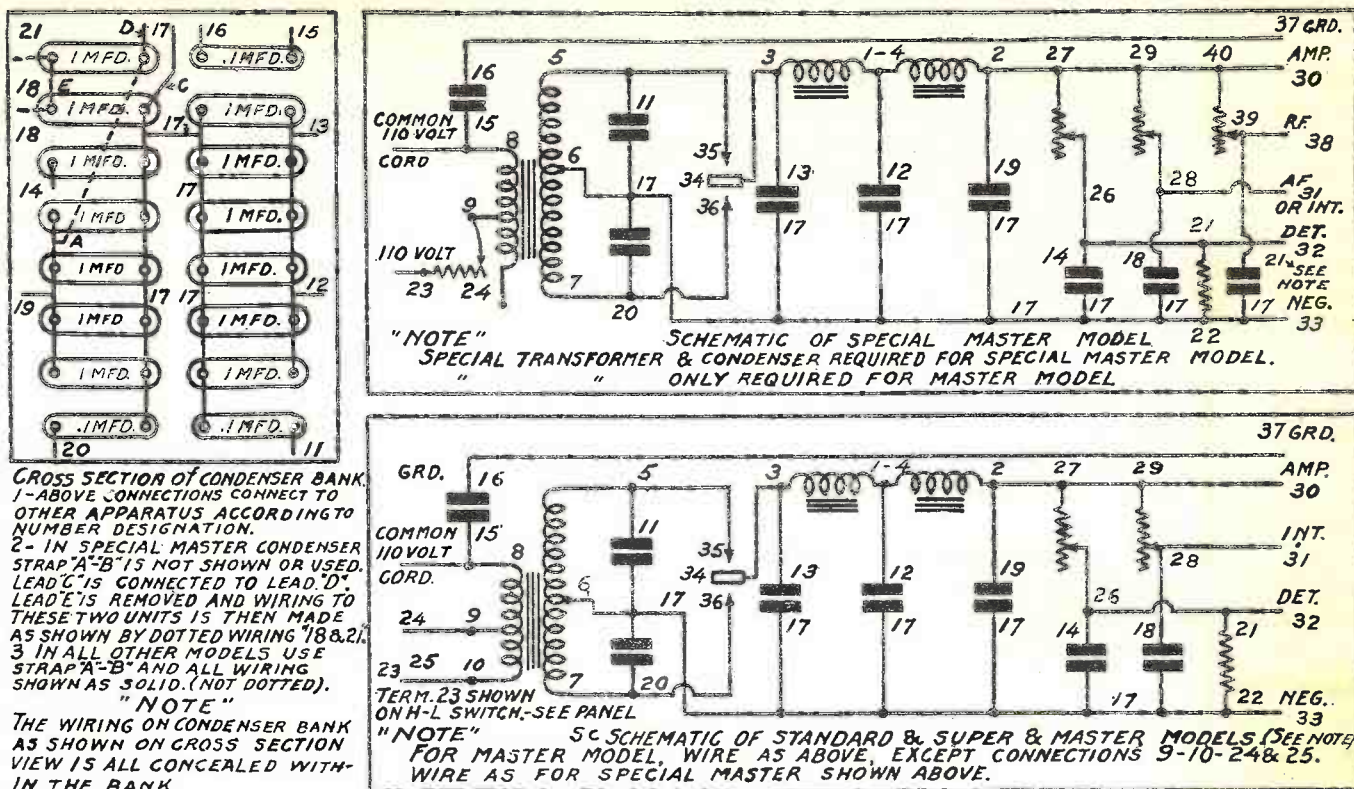

Fig. 28 - Diagram of Majestic "B" Eliminators.
(11) Gas Rectifiers. These are more generally used for commercial "B" eliminators. The Raytheon "B" and "BH" tubes are typical examples. Fig. 28 shows circuits of the